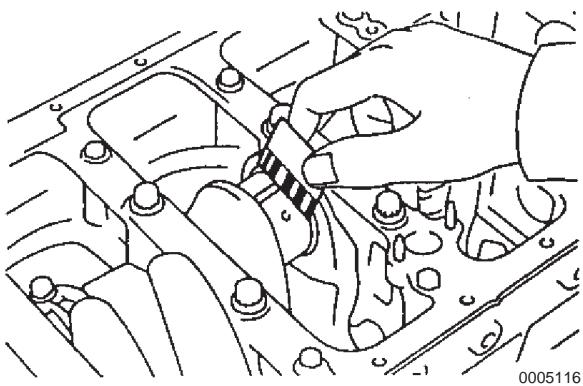

Figure 5-86
11. Measure the plastigage at the widest position (**Figure 5-86**).